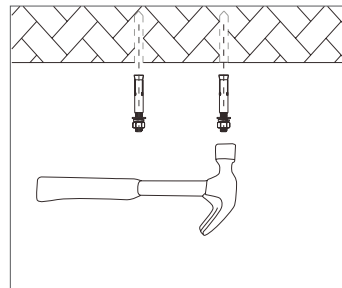

FIGURE 4
- B) Insert anchors into holes. (Figure 4)